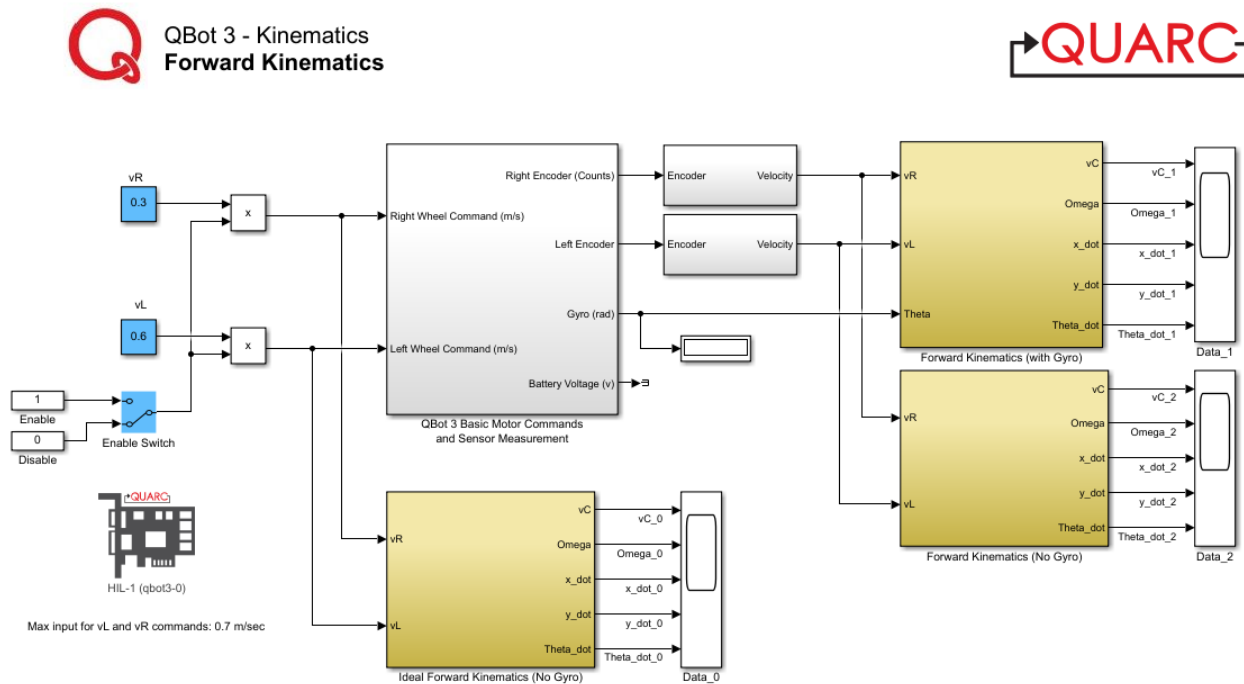

Figure 2.1: Snapshot of the controller model QBot3\_Forward\_Kinematics.mdl
The controller model for this exercise, shown in Figure 2.1, is called QBot3\_Forward\_Kinematics.mdl.
1. Wait until the QBot 3 has fully initialized (you should hear the QBot 3 start-up chime), then enable the movement of the robot using the manual switch shown in Figure 2.1.